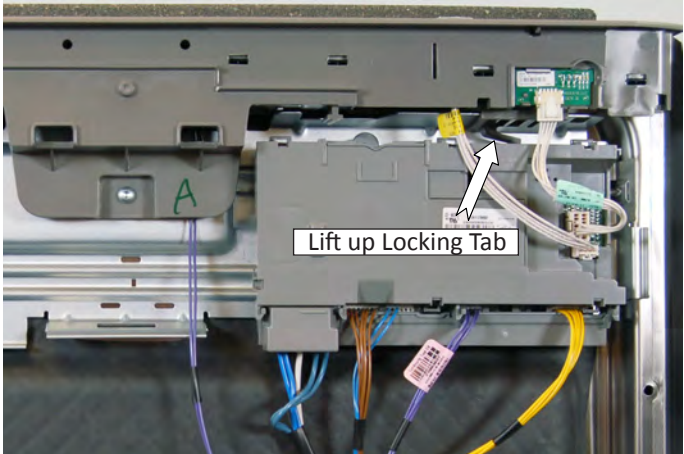

Figure 3 - Lift up Locking Tab
4. Depress the locking tab, see Figure 3